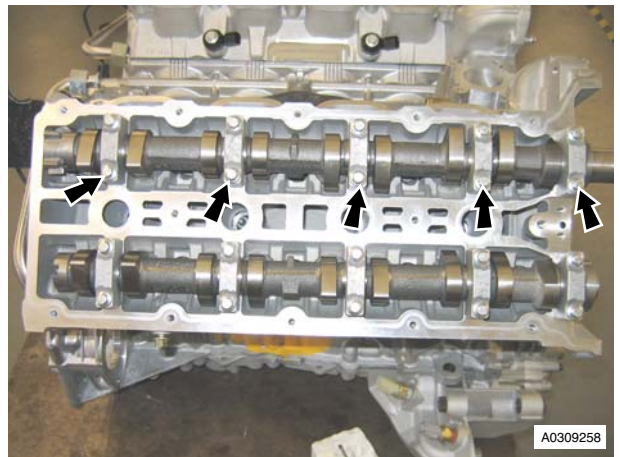

Figure 8
20. Remove RH intake camshaft bearing cap retaining bolts (x10) evenly and in stages (see Figure 8).